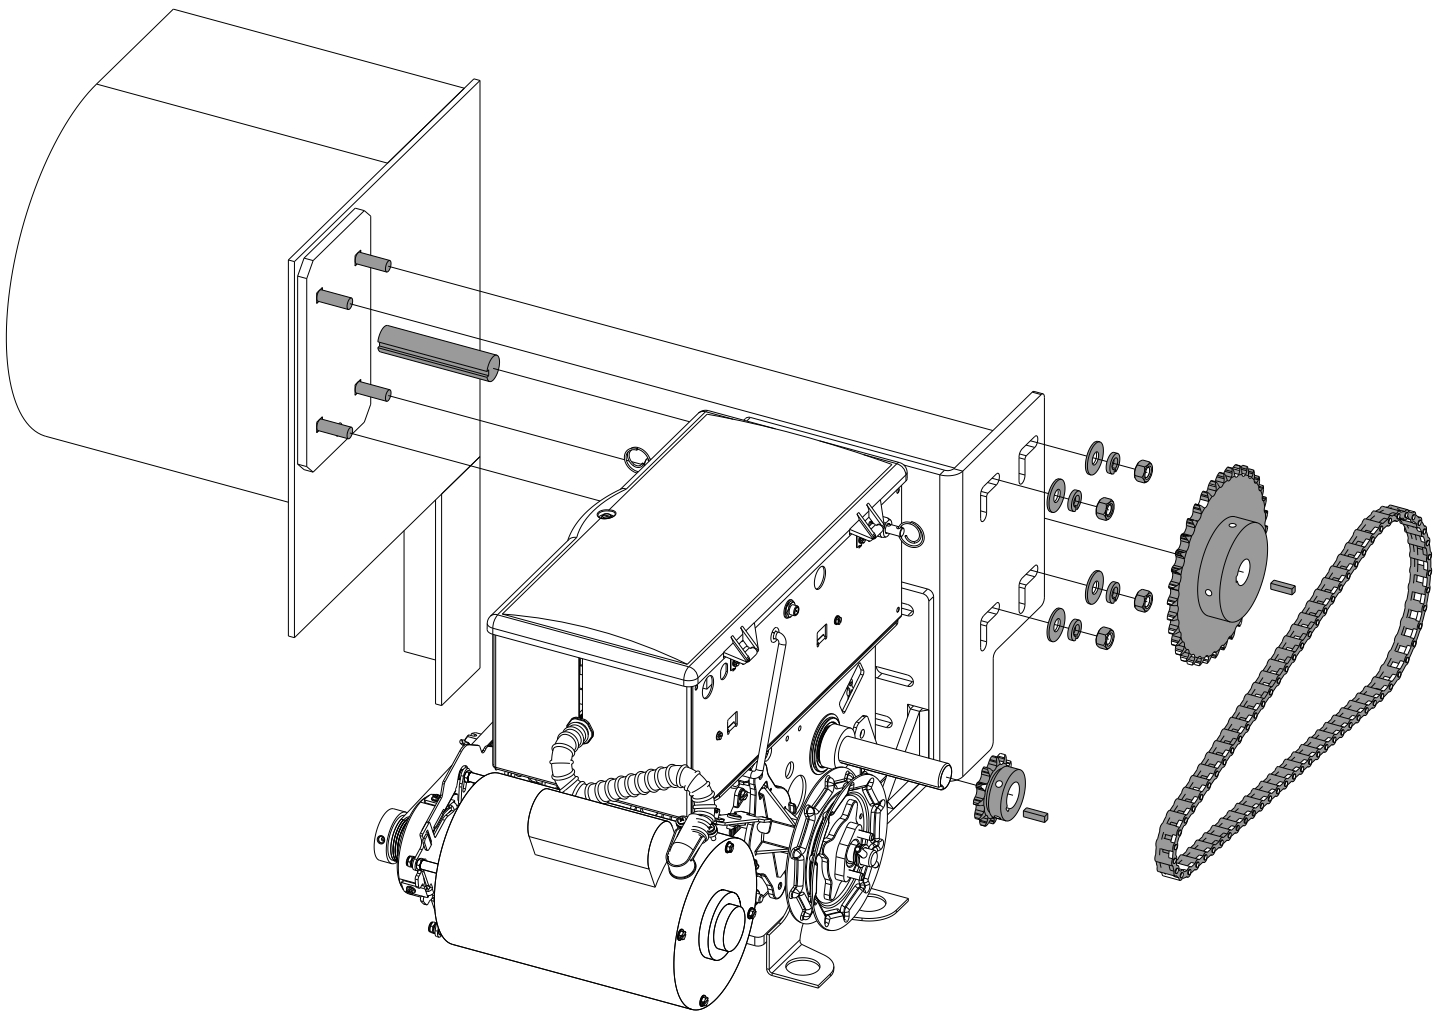

Fig. 16
5. Mount operator assembly to weld plate and install mounting hardware, do not tighten. Fig. 16